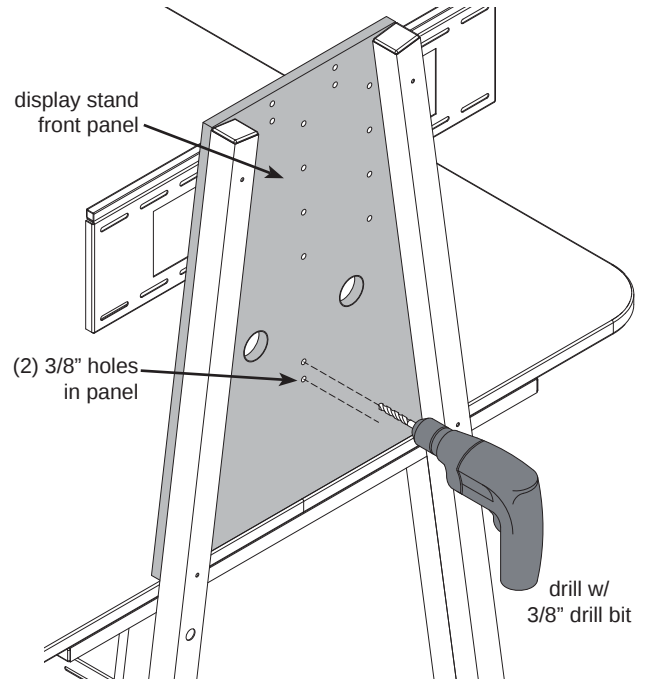

Figure 3
- C. Locate the two 3/8" holes in the display stand front panel. These holes do not go all the way through the panel so they will need to be drilled out. **Figure 3.**
- D. Using a drill with a sharp 3/8" drill bit, slowly drill through the display stand panel at the two 3/8" hole locations. **Figure 3.**